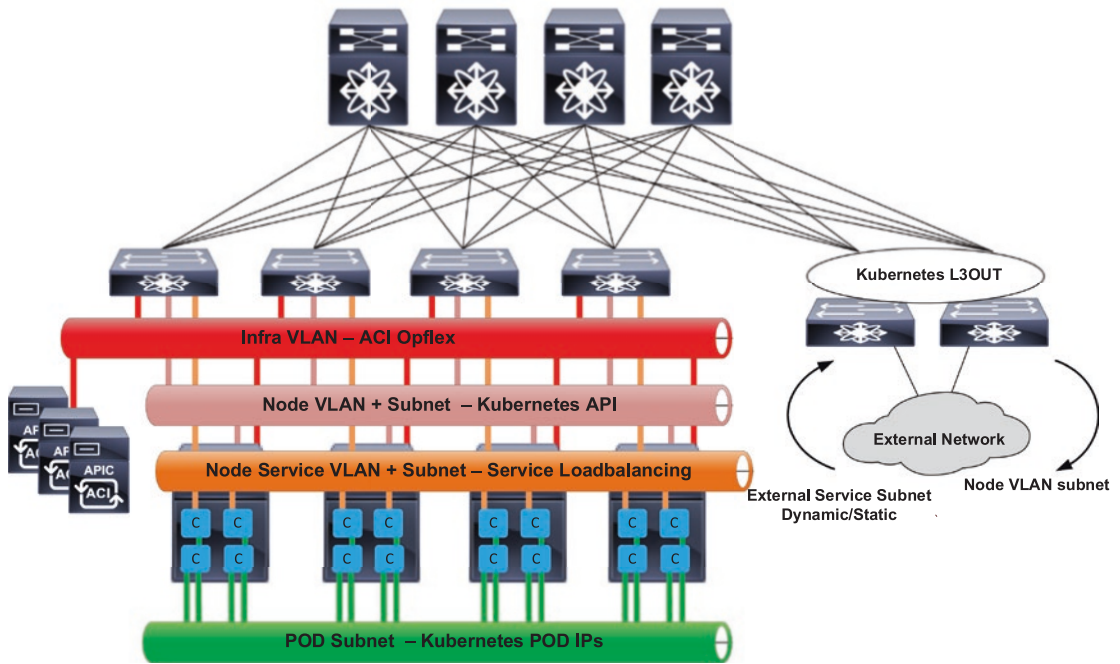

Figure 9-15. ACI and Kubernetes network integration overview
In Figure 9-15, you can see the high-level networking overview of resources needed for running integrated Kubernetes in ACI.
- **Node Subnet** (mask /16): Private subnet used for Kubernetes control plane traffic and API services. Despite its privateness, it should have network reachability with Cisco APIC and, for simplicity, it can be used for management access to the Kubernetes nodes as well. Each node server (master/worker) will have an interface with one IP from this subnet. The default route of node servers has to point to this subnet's gateway. As shown in Figure 9-15, ACI will automatically propagate this subnet using a predefined L3OUT later.
- **External Service Subnet Dynamic** (mask /24): Externally routable pool of IP addresses for accessing the loadbalancer Kubernetes services. As shown in Figure 9-15, you should make sure to statically route this prefix to the L3OUT border leaves used for Kubernetes external connectivity in ACI. These IPs will be dynamically assigned to Kubernetes services.
Now prepare several VLANs for the integration. They match the ones from Figure 9-15 and will be used in ACI as well as Kubernetes: